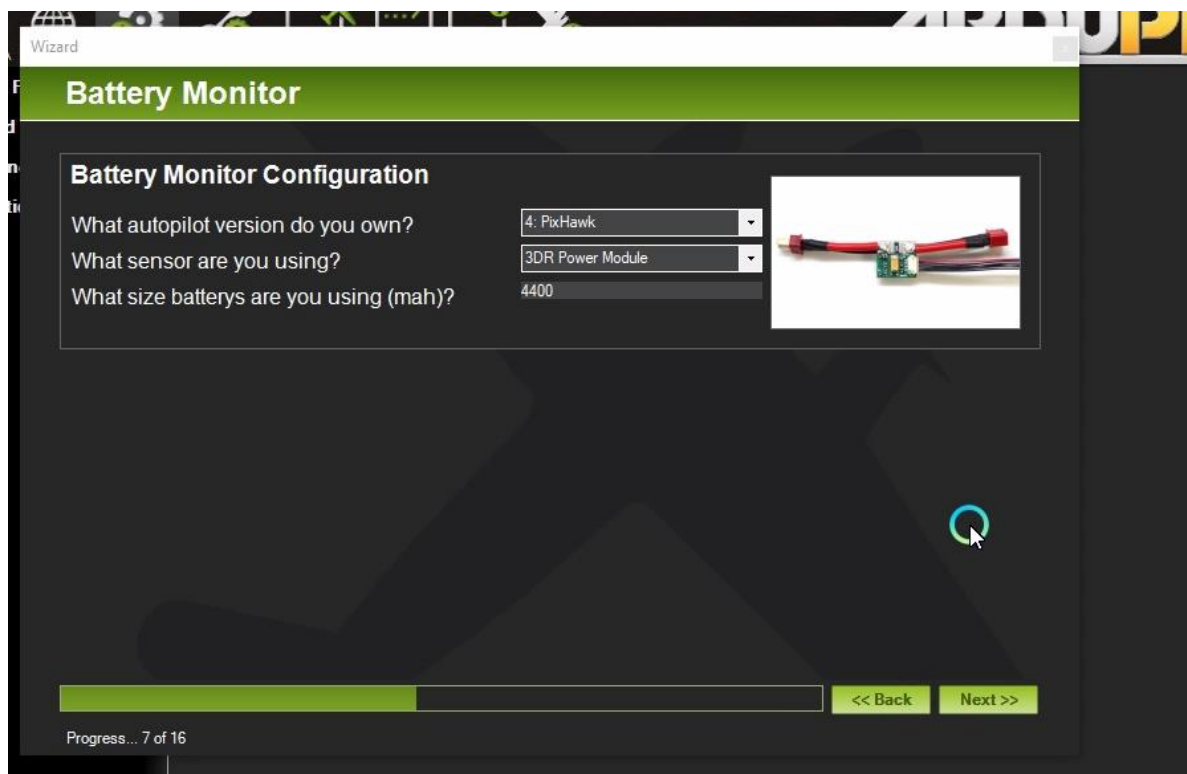

Fig.4.10
- Now, select the autopilot version (PixHawk), sensor (3DR Power Module) and battery capacity (2200, 4400, etc. as per the requirement). And click next. Refer Fig.4.10